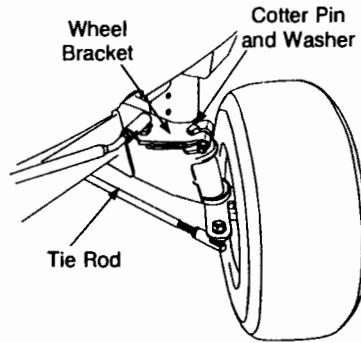

FIGURE 15
2. Reassemble the washer and cotter pin. See figure 15.